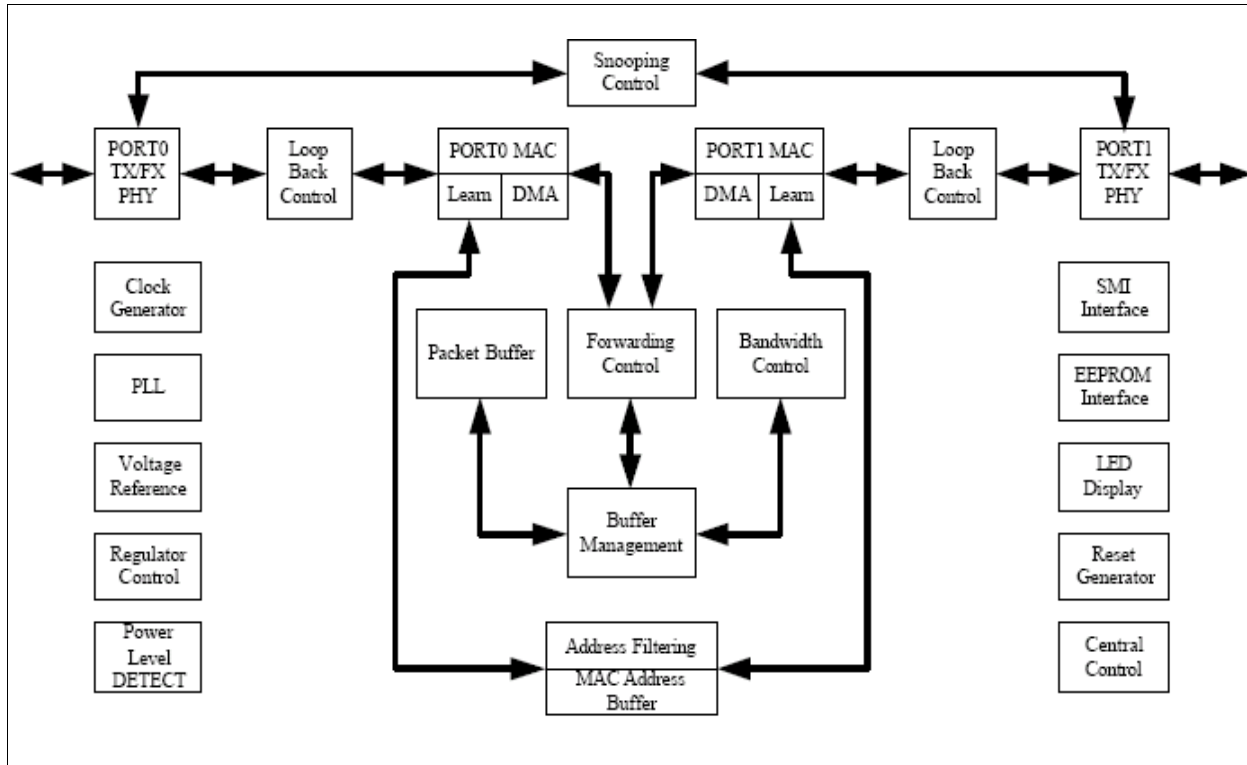

Figure 1 NINJA C/CX (ADM6992C/CX) Block Diagram
- Figure 1 NINJA C/CX (ADM6992C/CX) Block Diagram 9